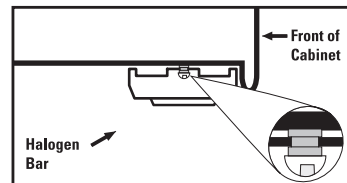

FIG. 4
4. Align the cross hole openings in the bottom plate of the light bar over the mounting screws, and firmly slide the light bar over in one direction to lock it into place. The light bar can slide toward the front, rear, or from side to side depending on the spacing in your particular installation. The light bar should fit snugly up against the mounting surface. If not, then your screws need to be tightened a little more for an improved fit (FIG. 4).